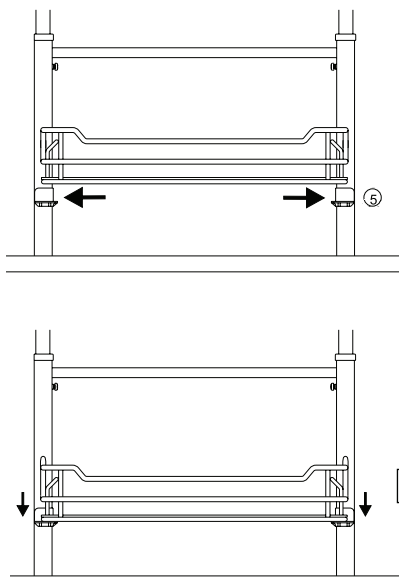

fig. 16
**18)** Install top basket first. Position it inside the frame and hold it to the top. Snap plastic basket clips (#5) onto the frame as shown in figure 16. Then slide the basket down on the clips.